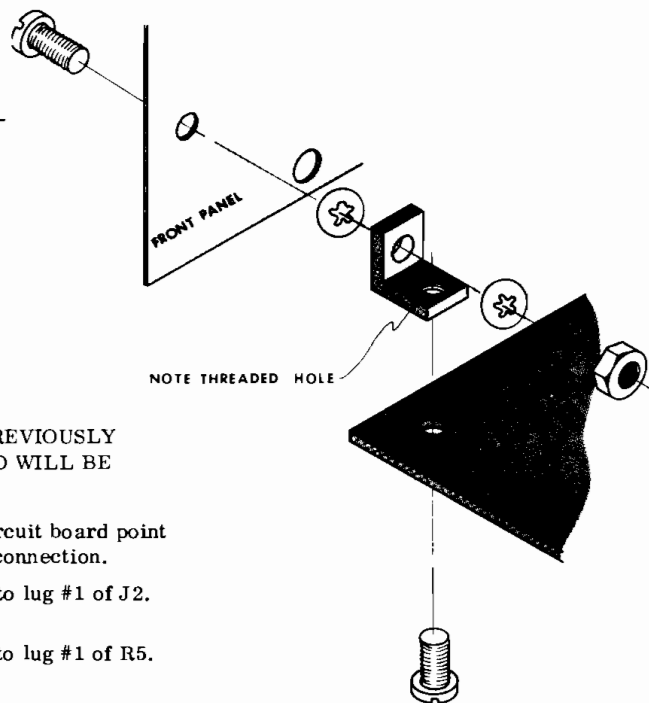

Figure 3 - Mounting Front Panel
- () Fasten the two "L" brackets to the front panel using one 4-40 X 1/4 inch machine screw, two lockwashers and one 4-40 nut on each bracket. Note that the unthreaded hole in the "L" bracket is used in this operation as shown in figure 3.